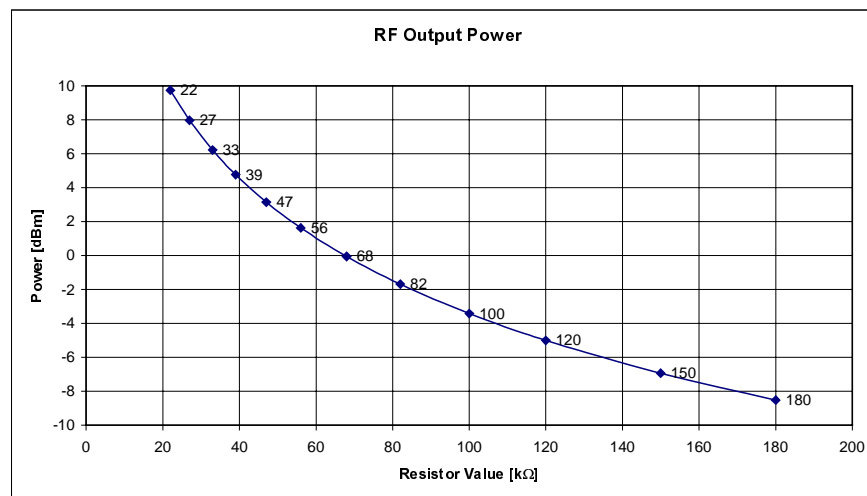
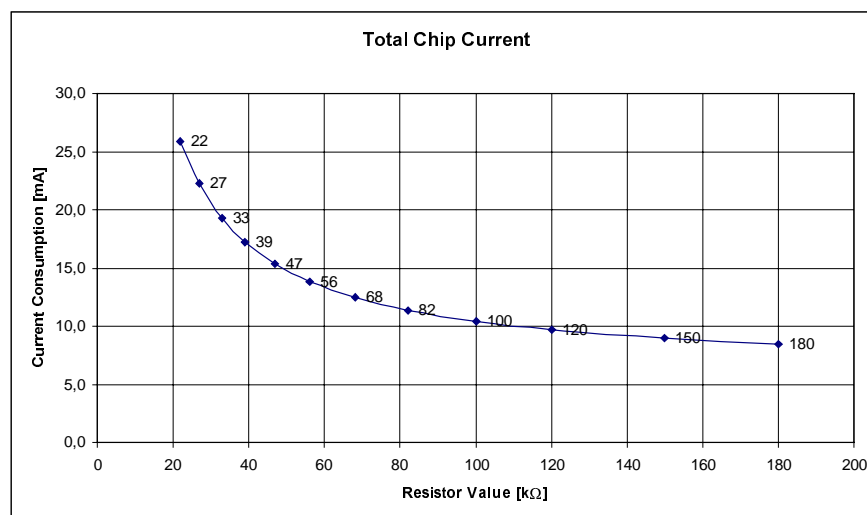
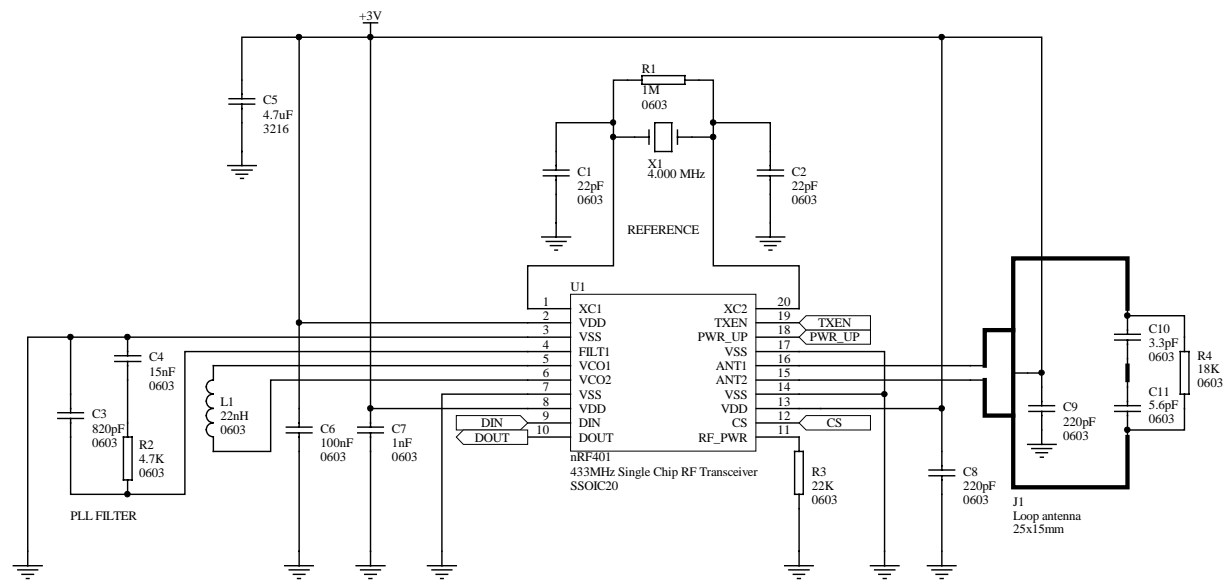
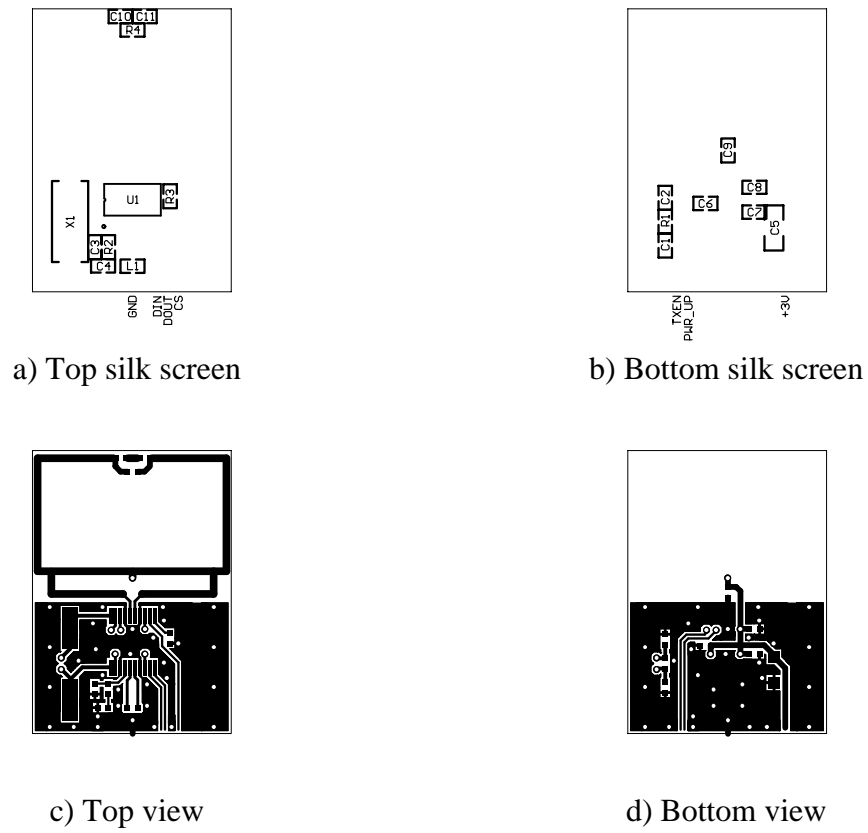

Figure 8. RF output power vs. external power setting resistor (R3) for nRF401.
Figure 9. Total chip current consumption vs. external power setting resistor (R3) for nRF401.
Figure 12. nRF401 application schematic.
Figure 13. PCB layout (example) for nRF401 with loop antenna.
Figure 12 shows a typical application schematic with a differential loop antenna on a Printed Circuit Board (PCB). The output stage (PA) consists of two open collector transistors in a differential pair configuration. VDD to the PA must be supplied through the collector load. When connecting a differential loop antenna to the ANT1/ANT2 pins, VDD should be supplied through the centre of the loop antenna as shown in Figure 12.
The external bias resistor R3 connected between the RF_PWR pin and VSS in Figure 12 sets the output power. The RF output power may be set to levels up to +10dBm. In Figure 8 the output power is plotted for power levels down to, but not limited to, -8.5dBm for a differential load of 400Ω. DC power supply current versus external bias resistor value is shown in Figure 9.
The synthesiser loop filter is an external, single-ended second order lag-lead filter. The recommended filter component values are: C3 = 820 pF, C4 = 15 nF, and R2 = 4.7 kΩ, see Figure 12.
The VCO inductor placement is important. The optimum placement of the VCO inductor gives a PLL loop filter voltage of 1.1 ±0.2 V, which can be measured at FILT1 (pin4). For a 0603 size inductor the length between the centre of the VCO1/VCO2 pad and the centre of the inductor pad should be 5.4 mm, see Figure 13 (c) (layout, top view), for a 2 layer, 1.6 mm thick FR4 PCB.
C1 and C2 are 0603 SMD capacitors as shown in the application schematic, see Figure 12 and Table 9. C_{PCB1} and C_{PCB2} are the layout parasitic capacitance on the circuit board. Layout parasitics are significant when using SMD crystals on PCBs with ground planes. Changes in C_L leads to changes in crystal frequency.
The VCO inductor placement is important. The optimum placement of the VCO inductor gives a PLL loop filter voltage of 1.1 ± 0.2 V, which can be measured at FILT1 (pin4). For a 0603 size inductor the length between the centre of the VCO1/VCO2 pad and the centre of the inductor pad should be 5.4 mm, see Figure 13 (c) (layout, top view), for a 2 layer, 1.6 mm thick FR4 PCB.
Figure 13 shows a PCB layout example for the application schematic in Figure 12. A double-sided FR-4 board of 1.6mm thickness is used. This PCB has a ground plane on the bottom layer. Additionally, there are ground areas on the component side of the board to ensure sufficient grounding of critical components. A large number of via holes connect the top layer ground areas to the bottom layer ground plane. There must **NOT** be a ground plane shielding the radiation from the antenna.